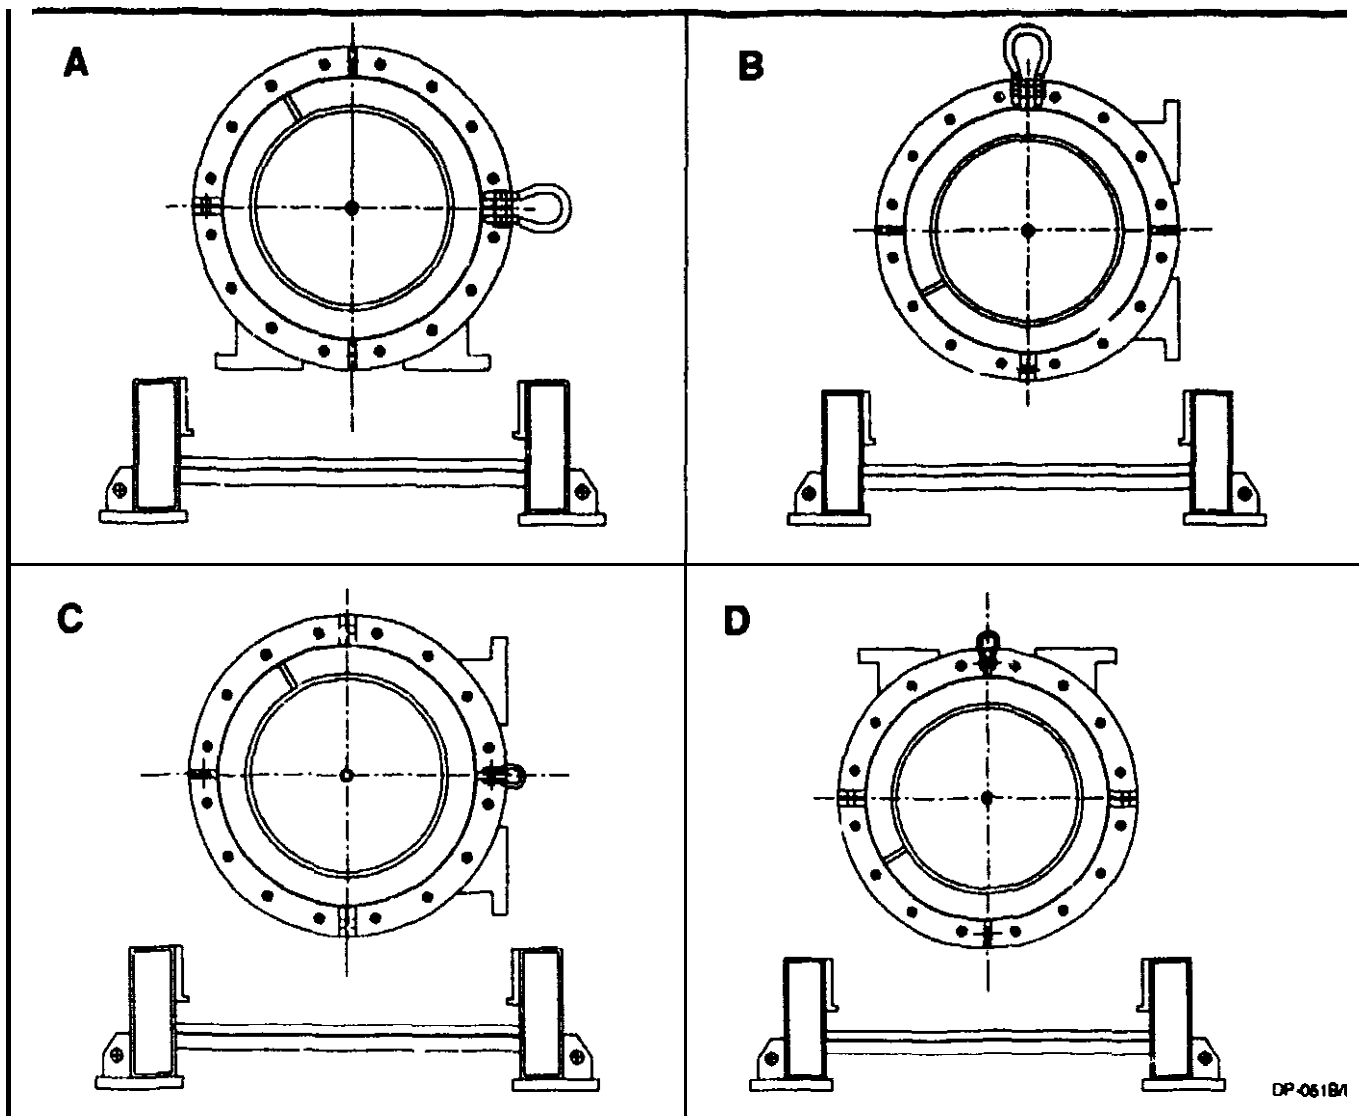

Figure 5-6
6. Attach lifting shackles through the holes provided in the longitudinal top rib of the cage (see Figure 5-6). Connect a suitable lifting device to the shackles. Each cage half weighs 600 pounds. Remove the slack from the lifting device.
7. **Carefully** lift up on the cage with the lifting device attached in Step 6. **T**he cage should rotate about the **press** shaft approximately 90 degrees. The split flange should now be approximately vertical (see Figure 5-6, B).
8. Attach the lifting shackles to the bottom longitudinal rib (see Figure 5-6, C) and attach the lifting device to the shackles.
9. Using the lifting device attached in Step 6, roll the cage into the position shown in Figure 5-6, D.